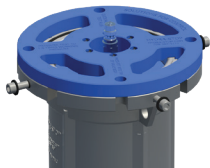

Figure 2
2.1.4 Press-fit pressure test plug into top of valve body (see Figure 2).